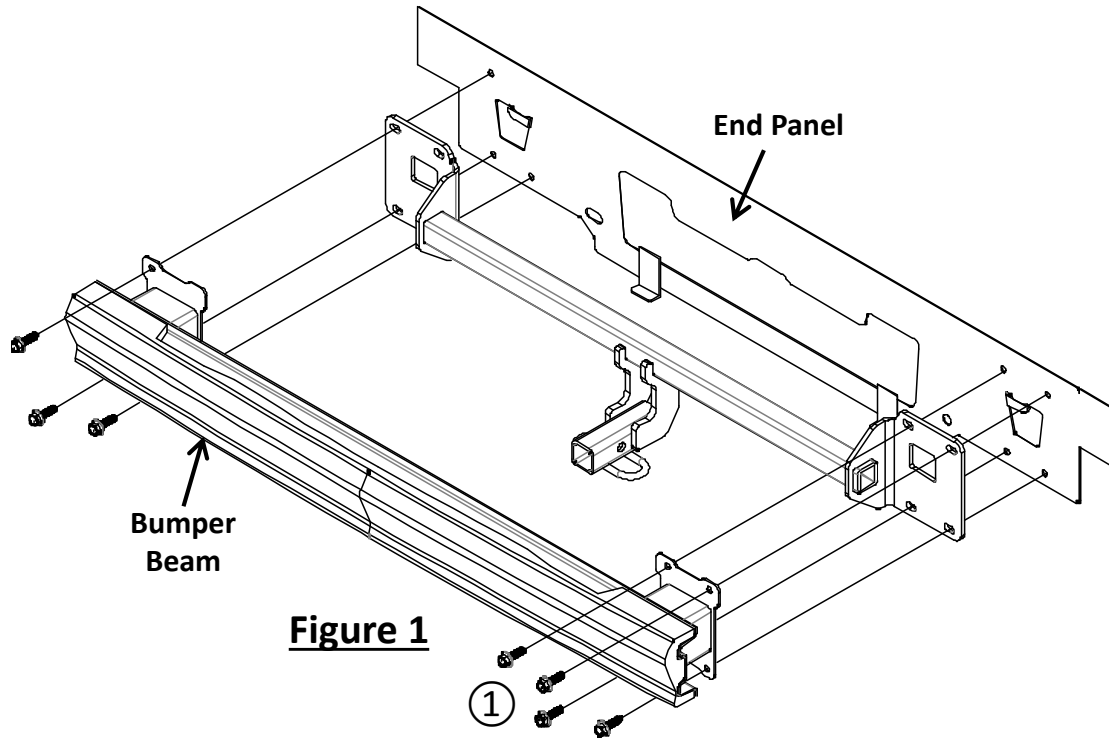

Figure 1
- 2. Remove bumper fascia:** (a) Using T15 torxbit socket, remove (4) plastic screws and tabs from bottom fascia. (b) Using T25 torxbit socket, remove (1) vertical screw from the bottom of wheel well liner, (3) horizontal screws from the side wheel well liner, and (1) vertical screw in the upper edge behind wheel well liner, both sides. (c) Using plastic trim tools, remove the fascia starting at the outer edges near wheel wells while gently pulling the fascia. (d) Disconnect the wiring harness from fascia if present. Set fascia aside.
- 3. Remove bumper beam:** Using a 13 mm socket with 6" extension, remove (7) factory M8 bolts holding bumper beam to end panel. Return bolts to owner.
- 4. Install hitch:** Align the bumper beam with hitch on the floor. Raise the hitch and bumper beam into position aligning holes on the end panel. Loosely install (7) M8 bolts ① to the bumper beam and hitch, see **Figure 1**.